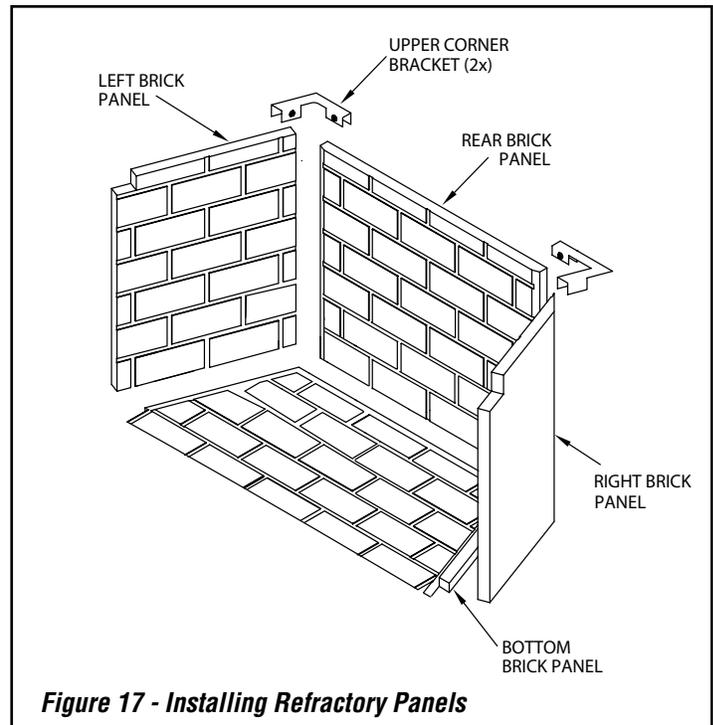

Figure 17 - Installing Refractory Panels
4. Install upper corner brackets and tighten set screws (see **Figure 17**).